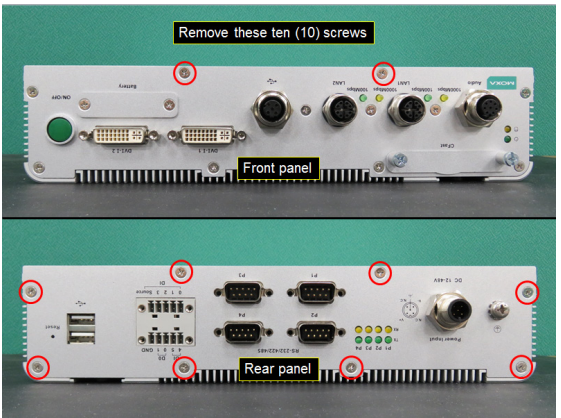

Figure 4
- 4.1.4 Use a Phillips screwdriver (item 1 in Table 2) to remove the ten (10) screws (indicated with red circles) on the front and rear panels as shown in Figure 4. After removing the screws, place the V2406A such that its rear panel is facing towards you.